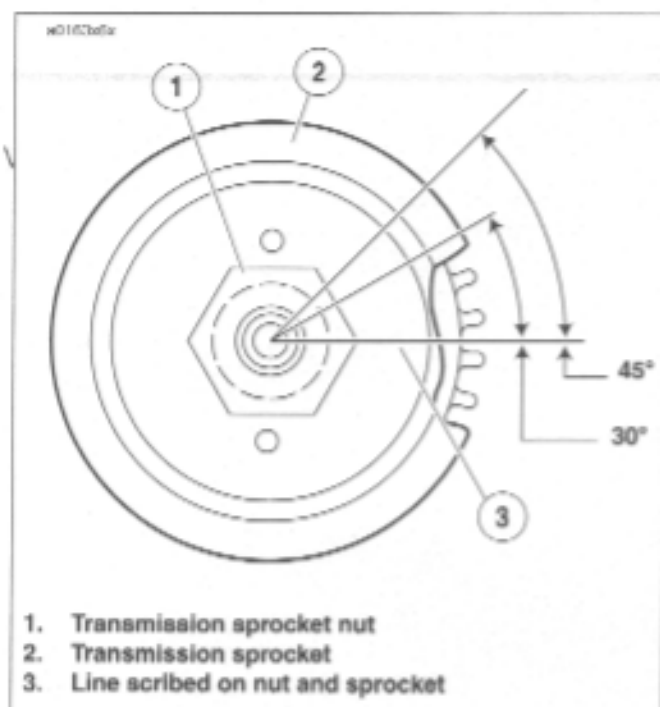

Figure 6-91. Aligning Transmission Sprocket
7. See Figure 6-91. Scribe a line on the transmission sprocket nut and continue the line on the transmission sprocket as shown.